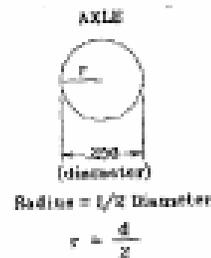

Fig. 6
27. What is the radius of the axle? \_\_\_\_\_ (See Fig.6)